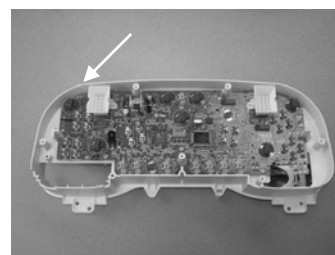

Figure 8
- Remove the upper left lamp from the back of the circuit board by turning the lamp ¼ turn counter-clockwise with a pair of pliers. (See figure 8)